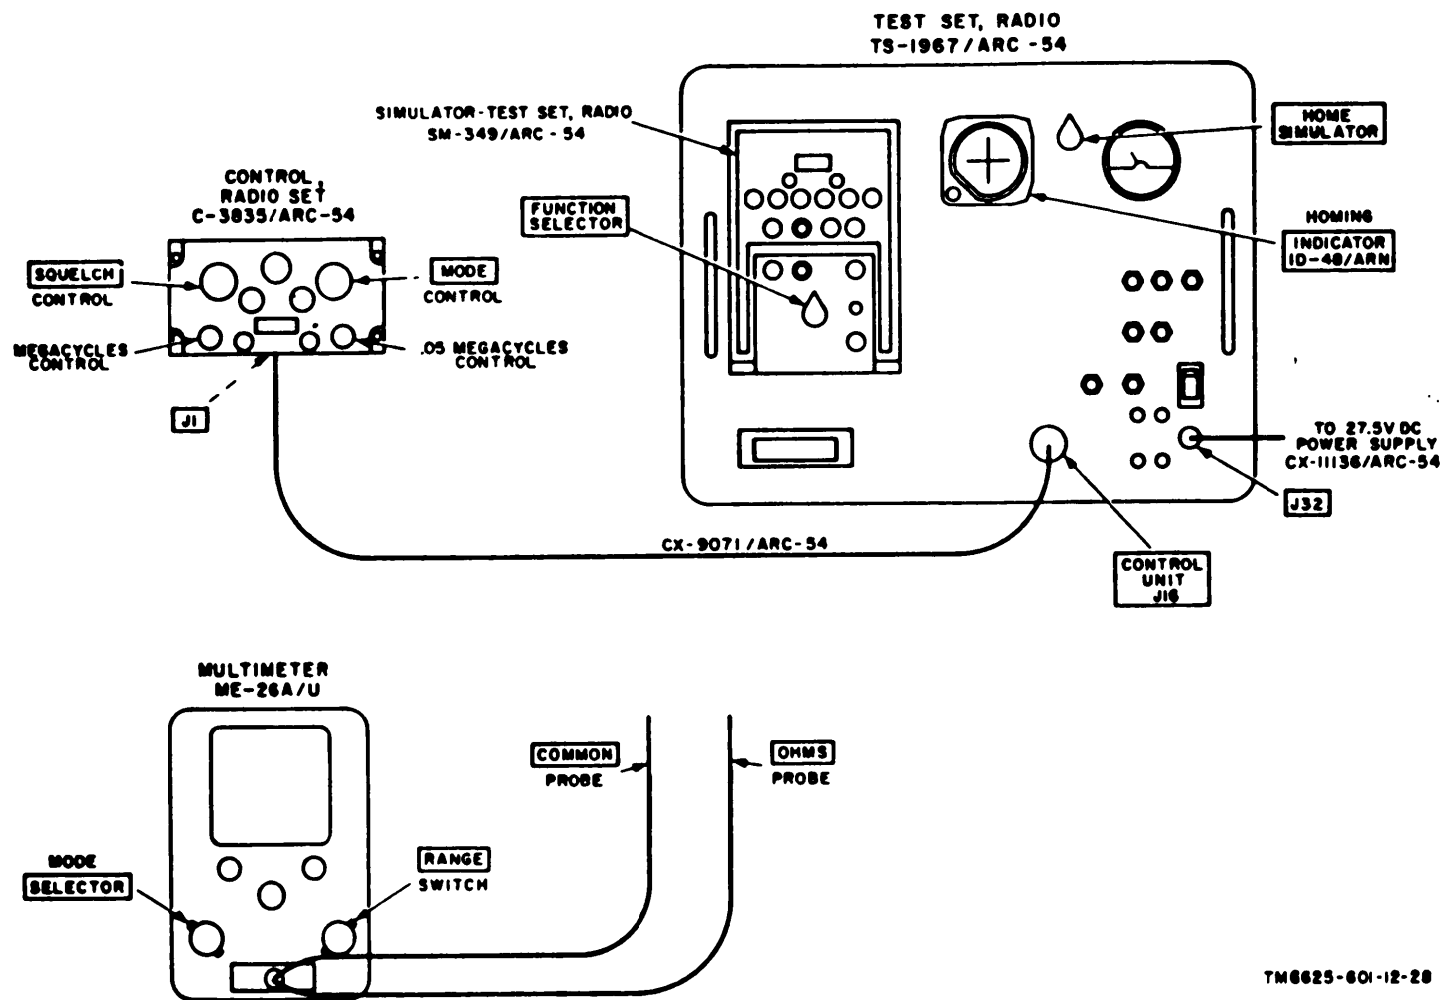

Figure 2-14. Control, Radio Set C-3835/ARC-54, operational test connections.
c. *Audio, PTT, and Squelch Circuits Continuity Test.* Perform the preliminary starting procedures (para 2-6a and b) and equipment interconnections (fig. 2-14).
d. Retransmit Circuit Test. Perform preliminary starting procedures (para 2-6a and b) and equipment interconnection (fig. 2-14).
e. *Frequency Selection and Panel Lamp Test.* Perform the preliminary starting procedures (para 2-6a and b) and equipment interconnections (fig. 2-14).